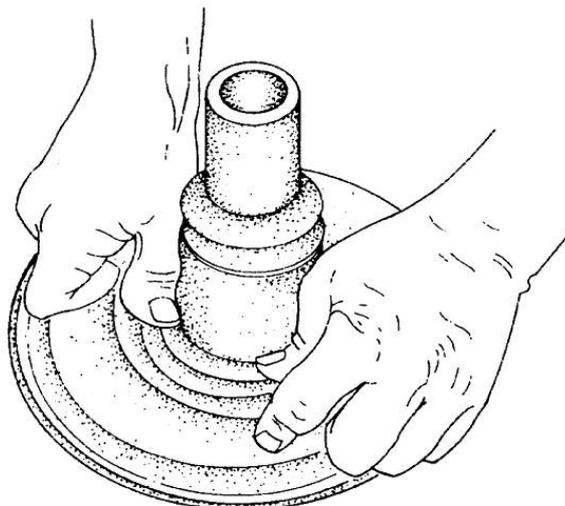

Figure 287 Installation of the Front Diaphragm
- d.** Lightly smear the front diaphragm inner bead and the diaphragm locating groove with rubber grease in the valve body. Install the front diaphragm on the valve body, ensuring that the inner bead seats correctly in the locating groove between the pressure plate and the valve body (Figure 287).